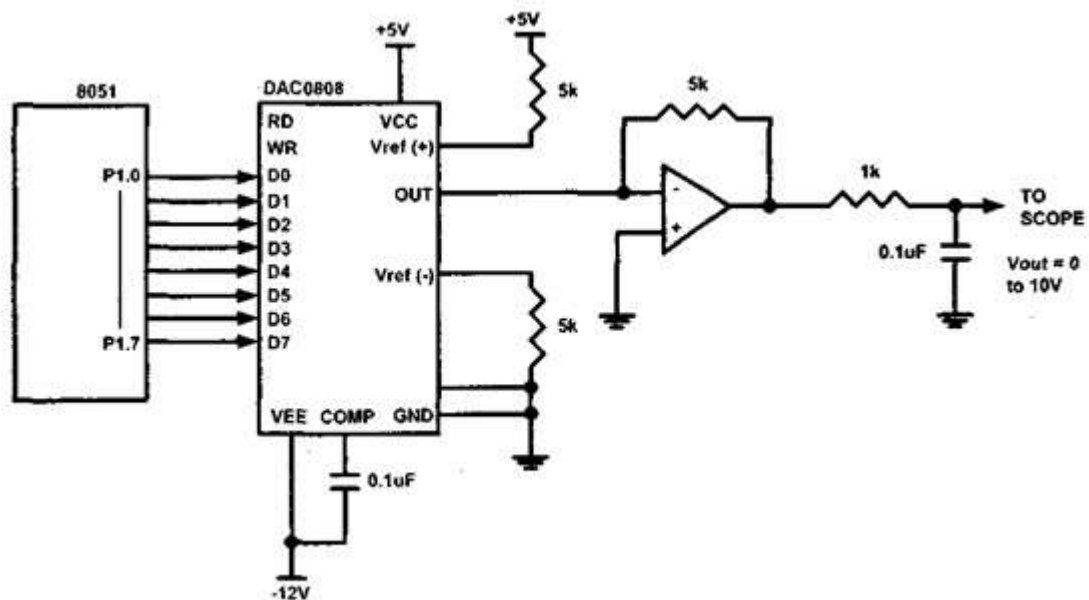

Figure 5.5.4 8051 Connection to DAC808
- The 8051 connection to DAC0808 is as shown in the below Figure 5.5.4.
In order to generate a stair-step ramp, set up the circuit in Figure 5.5.4 and connect the output to an oscilloscope. Then write a program to send data to the DAC to generate a stair-step ramp.